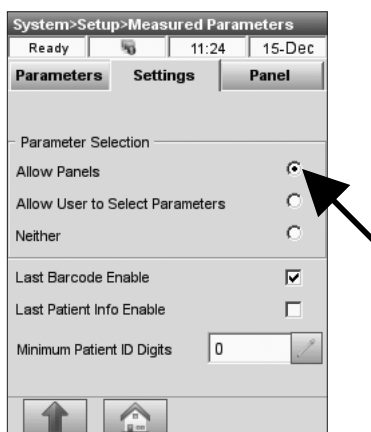

Fig. 3-24 Allow Panels
3. On the **<Settings>** tab (Fig. 3-24), press **<Allow Panels>**. By default, this option is disabled.